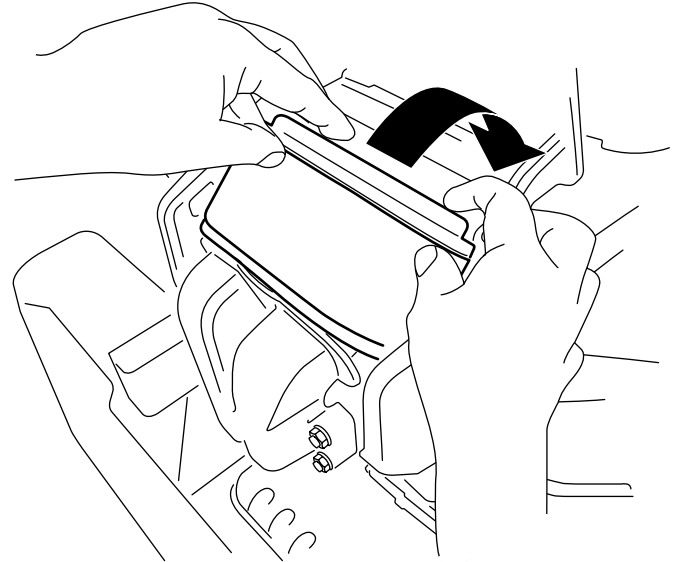

Figure 46
3. Rotate the filter down into the chamber and fully seat it against the manifold (Figure 46).